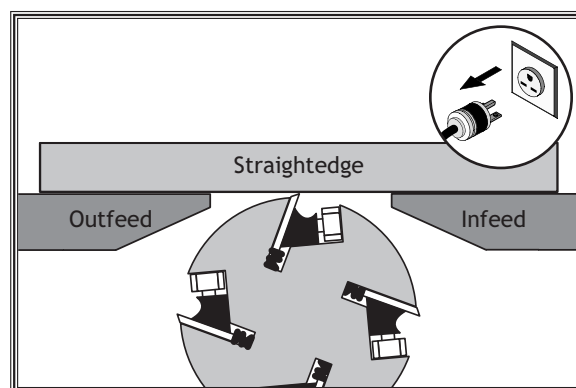

Figure 58. Infeed table even with outfeed table.
3. Use the straightedge to help adjust the infeed table exactly even with the outfeed table, as shown in **Figure 58**.